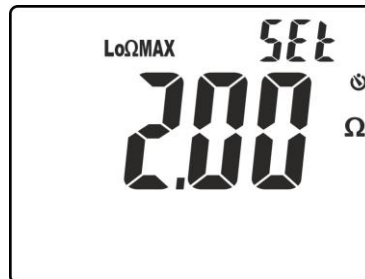

Fig. 26: Setting the limit threshold for continuity test
4. Press keys **▼/☼** or **▲/ZERO** to select the value in the range: **0.05 Ω ÷ 9.99 Ω** (see Fig. 26).
4. Press keys **▼/⚡** or **▲/ZERO** to select the value in the range: **0.05Ω ÷ 9.99Ω** (see Fig. 26).